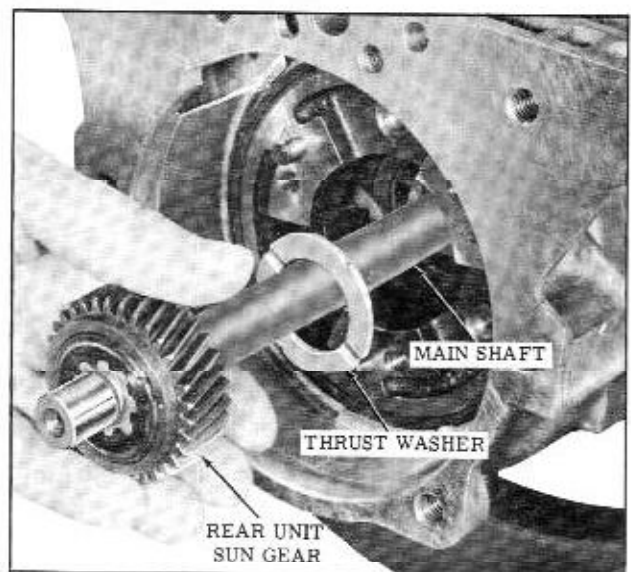

Fig. 3-45 Removing Mainshaft Sun Gear
42. Remove the mainshaft sun gear and thrust washer from the rear of the transmission. (Fig. 3-45)